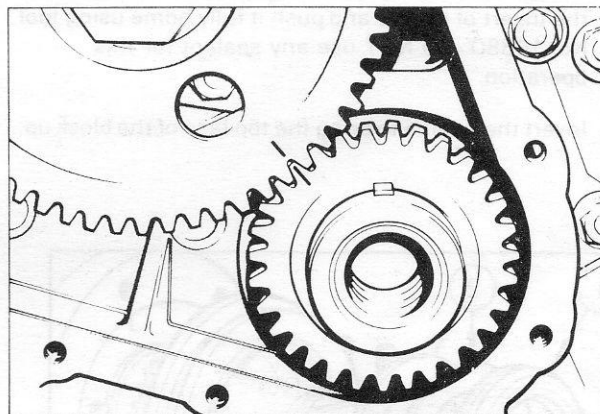

Fig. 38 - Camshaft and Crankshaft Gear Timing Marks in Alignment
31. Rotate the crankshaft and camshaft to bring both shafts in correct relationship to one another so that the timing marks on both gears will line up with one another when the camshaft gear is installed. Install the camshaft gear on to the camshaft ensuring that the keyway and the timing marks are correctly aligned (Fig. 38). DO NOT hammer the gear on to the shaft. If the gear is too tight to fit easily, heat the gear to 82°C (180°F) before fitting it onto the shaft.